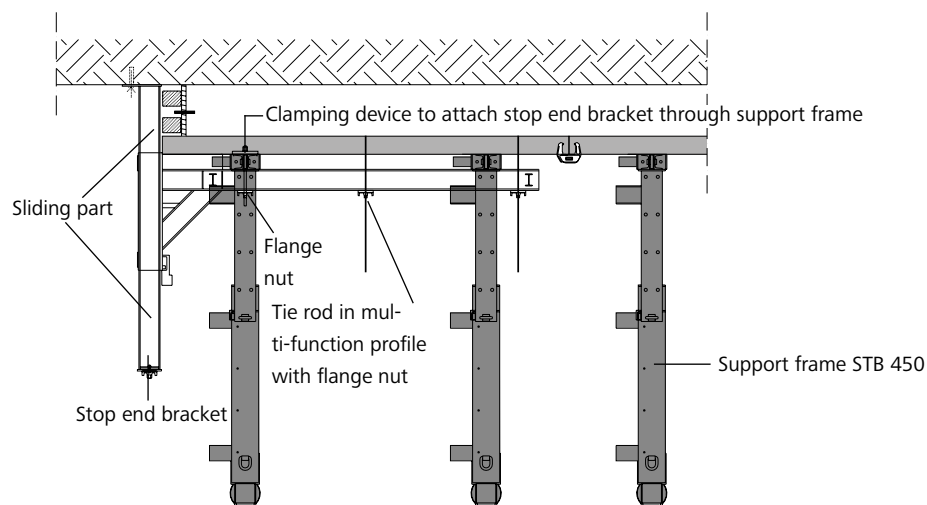

Fig. 32.2 Stop end bracket SB 110 on a horizontal Mammut/StarTec panel with a clamping device for the stop end bracket
- Mammut and StarTec: The clamping device for the stop end bracket SB 110 must be used to attach the stop end bracket (Fig. 32.2).